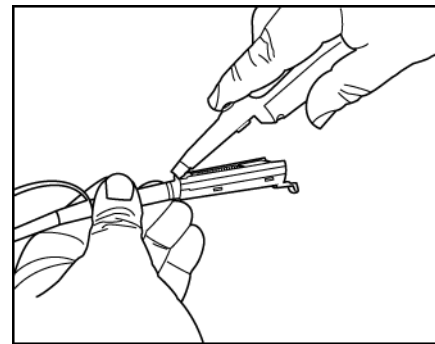

Fig. 8 Insert connector tab into distal end of the handle
- 6 Insert the blue connector tab into the distal end of the handle (Figure 8).